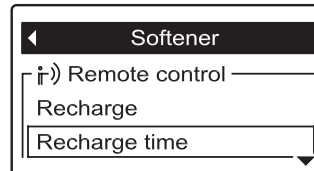

FIG. 111
3. Press the DOWN (▼) button to scroll through the menu options until **Recharge time** is highlighted in a box (See Figure 111).
6. Press the SELECT (O) button. The display will go back to the softener menu (Figure 111).